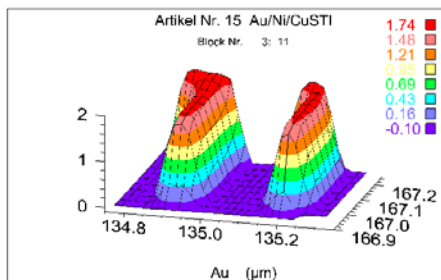

Figure 2: Coating thickness distribution Au on the bond strip of a pc-board
- Surface scans with graphical 3-D evaluation (cf. Fig. 2).